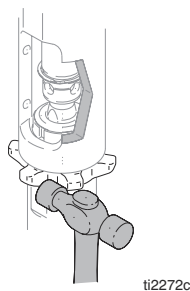

FIG. 9
3. Fig. 9. Loosen jam nut. Unscrew pump.